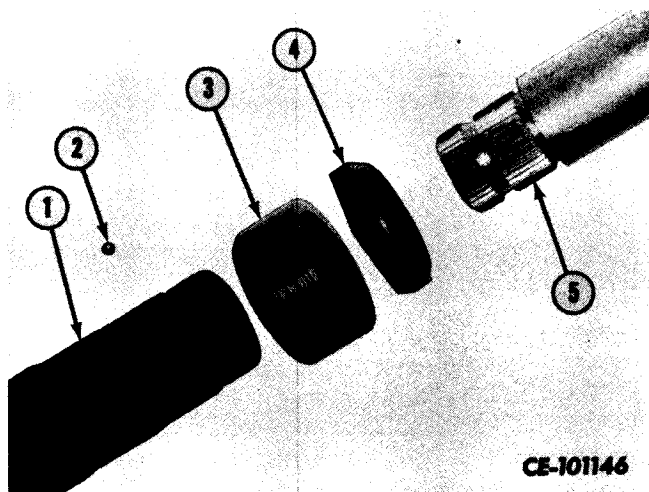

Figure 8-22
Remove nut (4, Fig. 8-22) from end of outer steering shaft (1). Tap ring (3) with a brass hammer or drift to remove it. Remove steel ball (2) from its bore in outer shaft. Separate outer shaft (1) and intermediate shaft.
Insert intermediate shaft (5, Fig. 8-22) in outer shaft (1) centering groove under ball bore in outer shaft. Install ring (3) centering its ball bore over bore in shaft. Insert steel ball in ball bore in ring. Be sure ball drops through ring and outer shaft and bottoms on groove in intermediate shaft (5). Push ring further up on taper of outer shaft. Install nut (4) and tighten snugly.